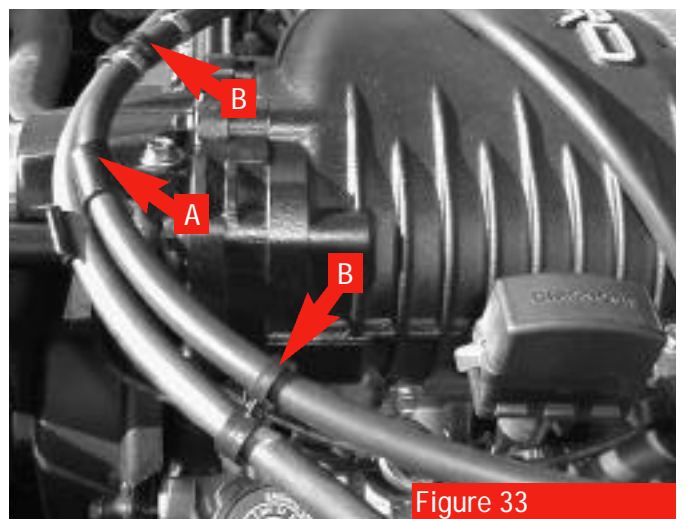

Figure 33
8. Remove the throttle cable/evaporative canister hose bracket and bolt from the stock manifold. Install the bracket to the supercharger as shown (see arrow A, figure 33). Insert the throttle cable and evaporative canister hose, and install the **Zip Tys** on the throttle cable and evaporative canister hose as shown (see arrows B, figure 33).